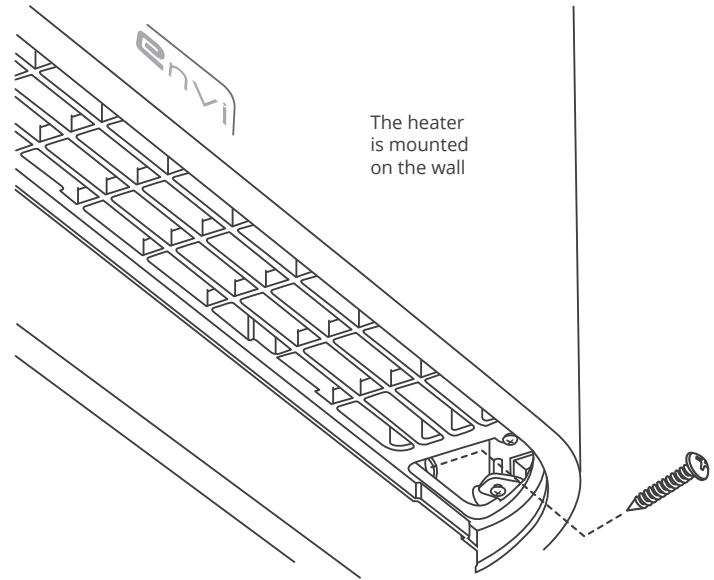

Fig. 6
- 6** (OPTIONAL) Install the third screw inside the bottom access door area (Fig. 6). Replace the door. Please note: for clarity the cordset is not shown exiting the heater.